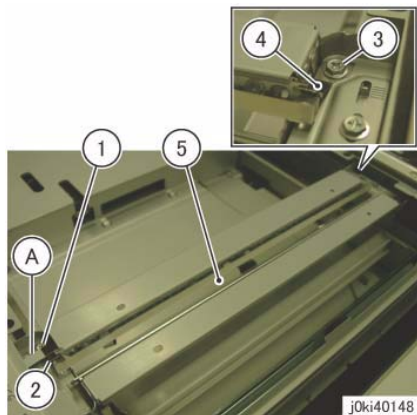

Figure 1 Remove the Light Guide
6. Remove the Light Guide. (Figure 1)
- (A) Take note so as to not damage the Lamp Wire Harness.